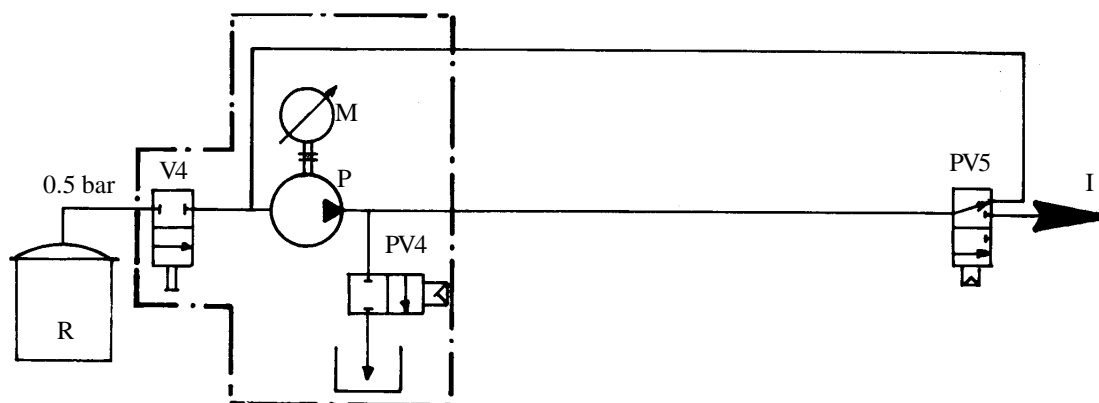

Figure 10
5.4. MONTAGE AVEC CIRCUIT RETOUR ET PNEUMOVANNE DE VIDANGE (VOIR FIGURE 10)